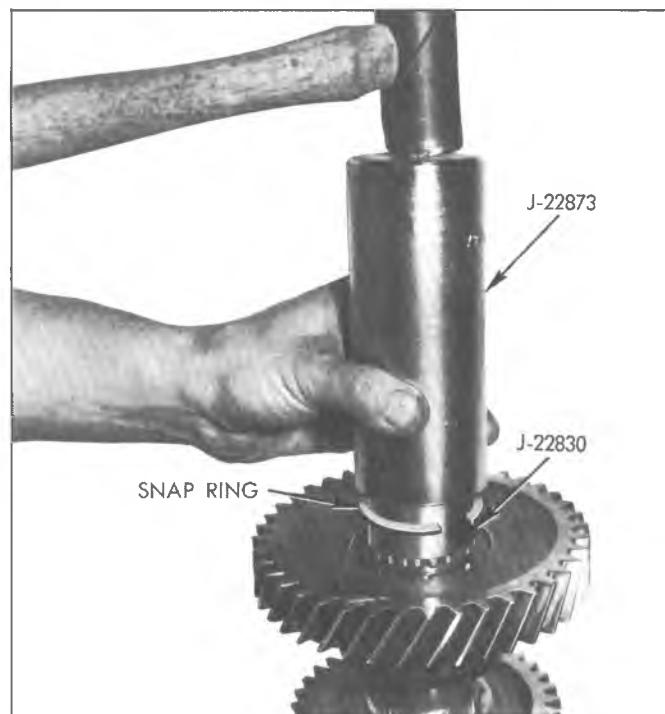

Fig. 21Q -Installing Counter Gear Snap Ring
3. Install new clutch countergear rear retaining ring using Tool J-22830, J-22873 and snap ring pliers as follows: Install Tool J-22830 on end of shaft and position snap ring on Tool (fig. 21Q). Using Tool J-22873, push down on snap ring until it engages groove on shaft. Using snap ring pliers, carefully expand ring until it just slides onto splines, then push ring down shaft until it engages groove on shaft.
5. Install clutch countergear thrust washer and front retaining ring using Tool J-22830 and J-22873 (fig. 21Q).